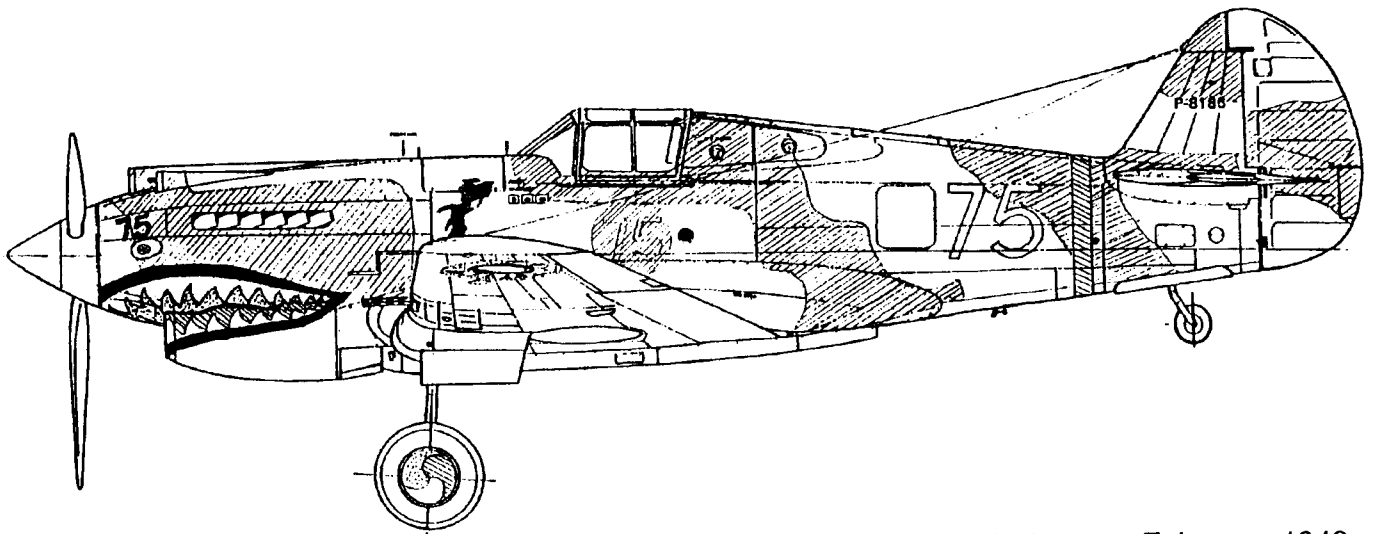

Figure 8 Hawk 81-A2 Number 75 (Ser. P-8186), January-February, 1942
**Figure 8. Hawk 81-A2 number 75 (serial P-8186), January-February, 1942:** This plane was assigned to William Reed, a flight leader in the Third Squadron. All numbers and lettering were in the usual white. A small white pilot inscription appeared on the port side, ahead of the cockpit, and a similarly styled small white crew chief inscription was painted in this position on the starboard side. This aircraft was one of a few that originally had the fuselage number painted under the cockpit. This was then painted out with a dark green disk, although the number remained faintly visible underneath. The